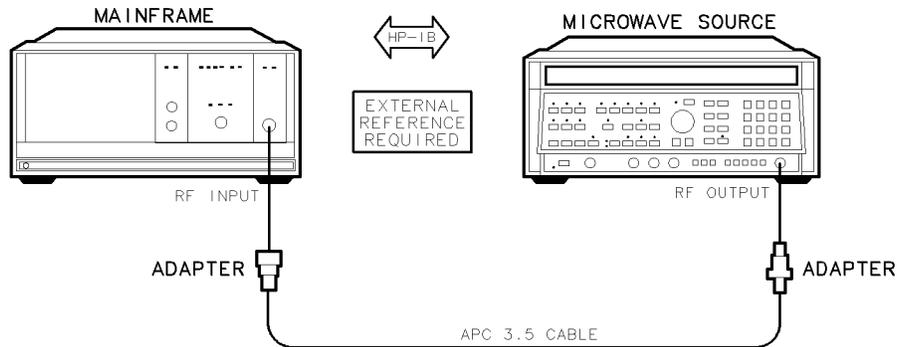

Figure 7-29. Reference Oscillator Noise and Stability Test Setup
2. Connect the HP 8340A/B synthesized sweeper's RF OUTPUT to the DUT's RF INPUT using the adapters and the APC 3.5 cable, as shown in Figure 7-29.